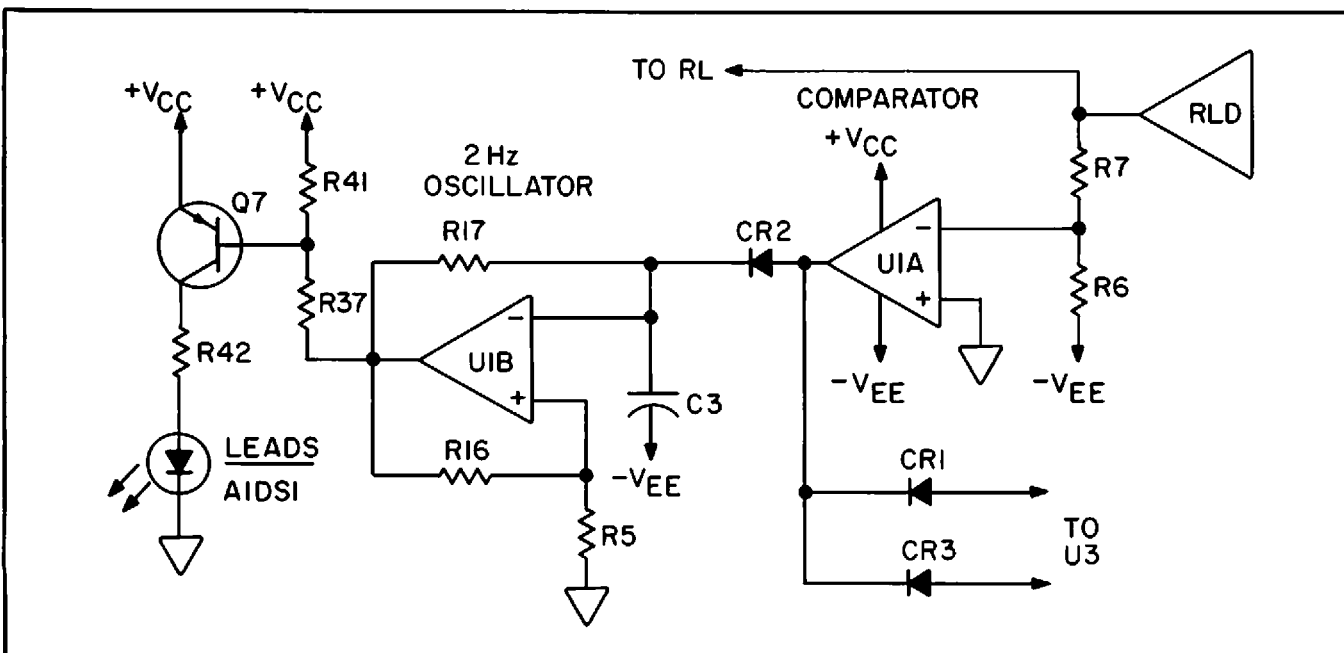

Figure 2-7
2.3.2.4 ECG Leads Off Indicator (Fig. 2-7)